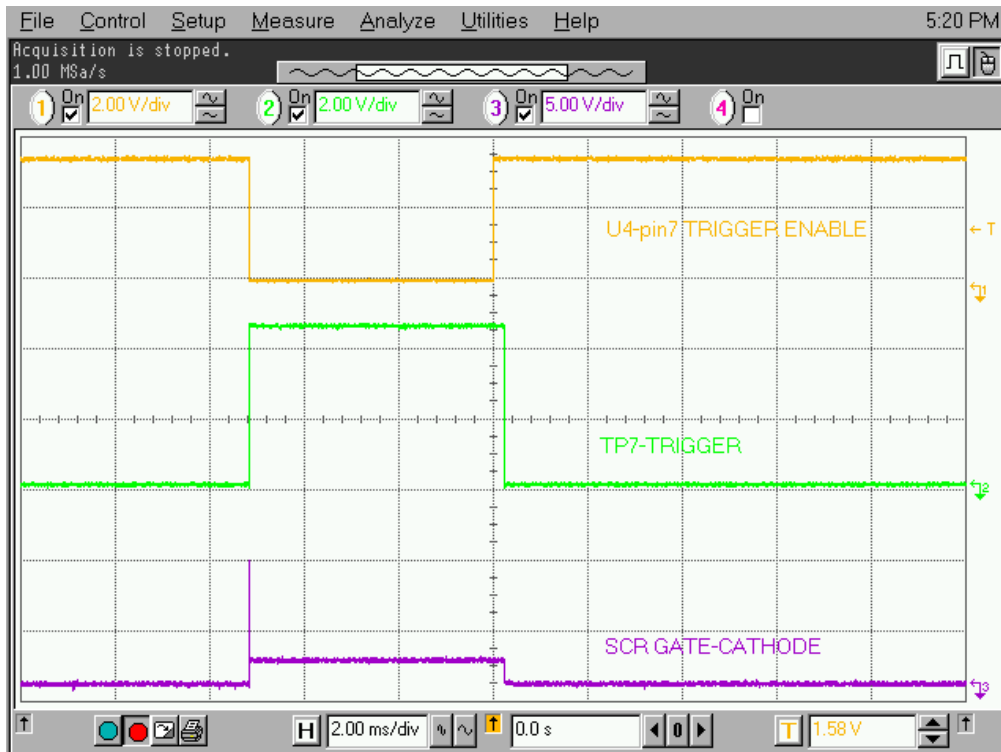
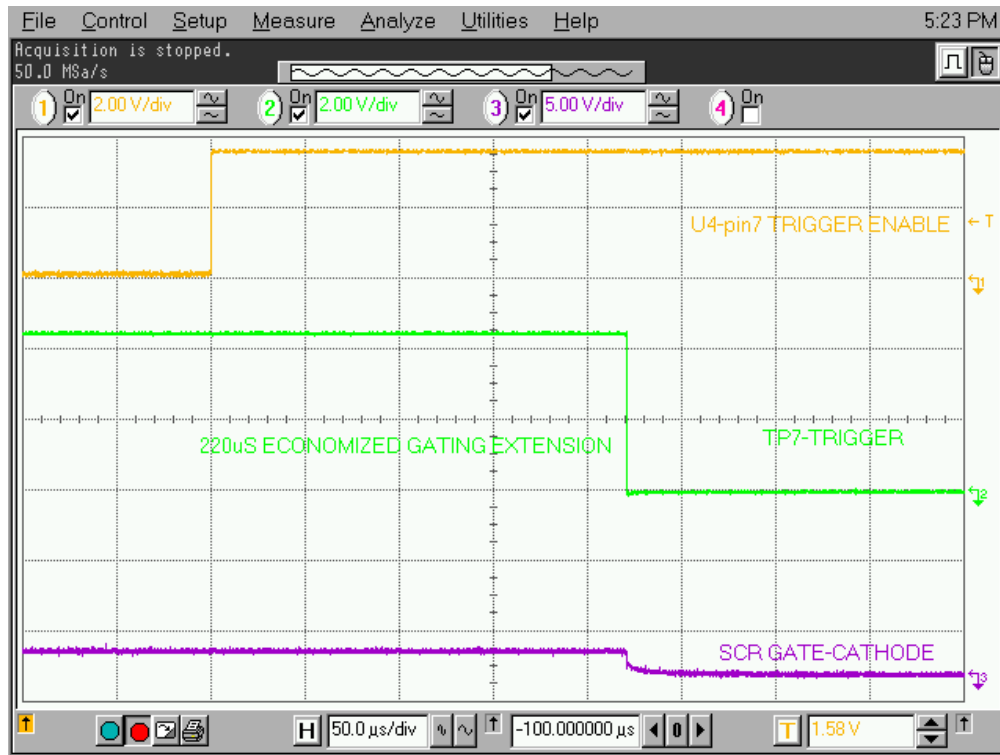

Figure 4.41 – V Sense Trigger to SCR gating pulse
Figure 4.42 – Expansion of V Sense Trigger to SCR gating pulse
22. Apply a 60 Hz, 33% duty cycle signal, at a 0 to +2V level, between the TB1-2 input and COM. Verify the signals in Figures 4.41 and 4.42. Note that in Figure 4.42 there should be a 220 μ S, +/-20 μ S time between the rising edge of the U4-pin7 pulse and the falling edge of the TP7 signal.